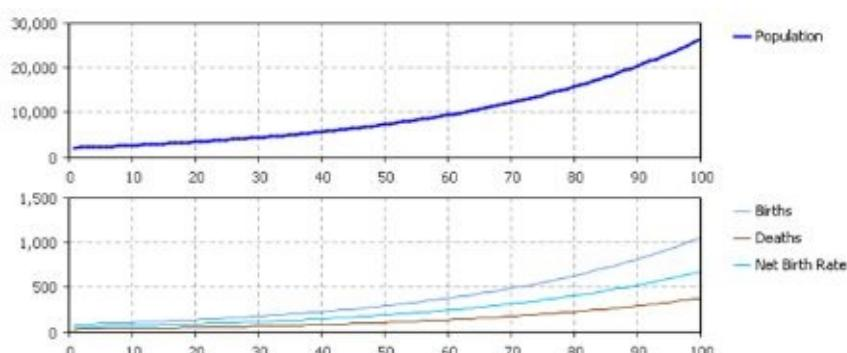

Figure 5.13 Time plots of the key system variables. Exponential growth
- 23.** Ctrl+drag the plot to create another one below, see Figure 5.13.